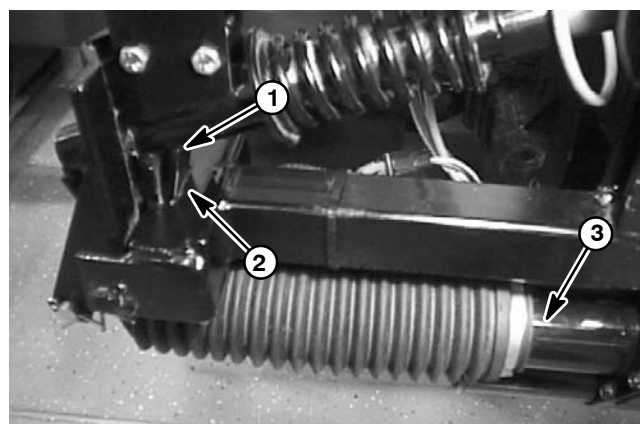

Figure 46
3. With the boom actuator at full extension, there should be a gap of approximately .105" (2.7 mm) between the breakaway pivot gusset and the center boom frame slot (Fig. 46).